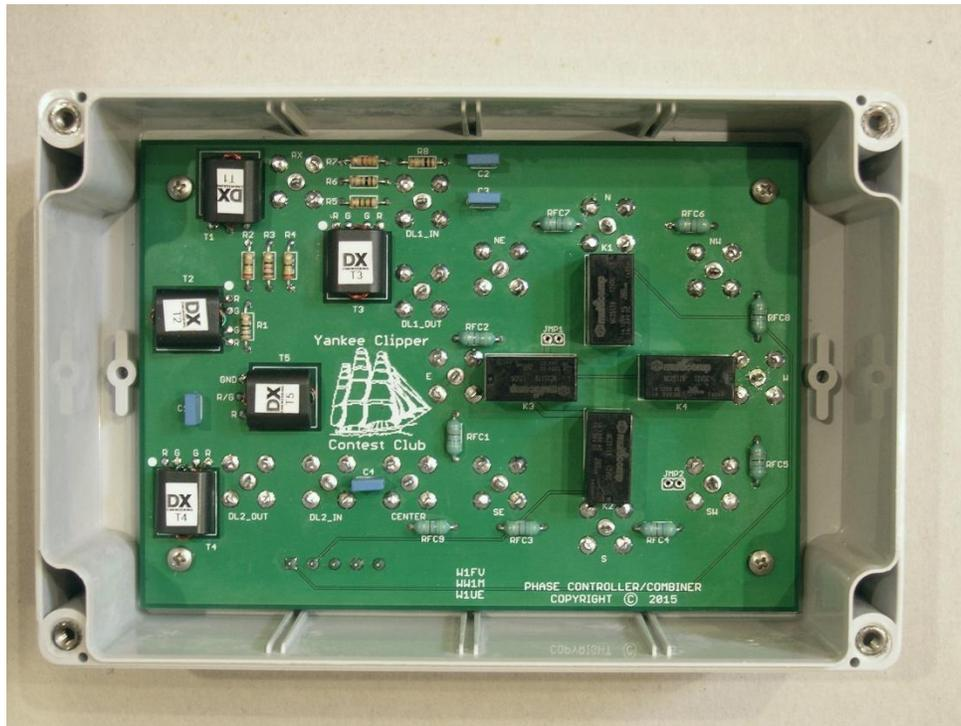
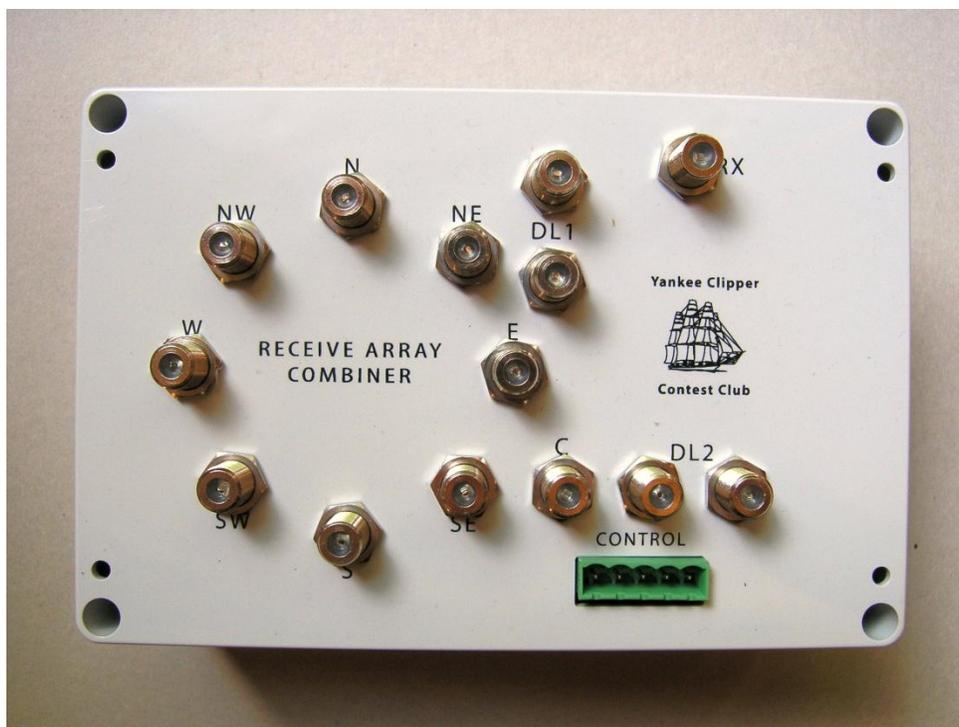

Figure 20. Inside view of PCB mounted in enclosure
Figure 21. Bottom view of combiner enclosure with PCB mounted inside
28. Mount the PCB by passing the F-connectors and the terminal block through the holes. There are four mounting holes at the corners of the PCB (refer to Figure 20). These holes line up with threaded holes inside the enclosure. Install Phillips screws at each of the corners to secure the PCB to the inside of the enclosure. Then install and tighten the nuts on all 14 F-connectors on the outside of the enclosure. The finished unit should look like Figure 21.
6. Control cable connections are made to the 5-pin terminal block. Use the plug that is supplied with the kit. Viewed from the bottom of the enclosure (see Figure 21) the order of terminal block connections on the outside, from left to right is +12V, GND, K3/4, K2, K1.